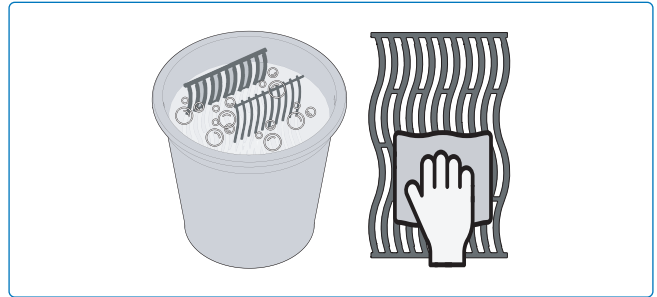

Fig. 17
2. Rinse with hot water and dry thoroughly with a soft cloth to prevent rust (**Fig 17**).